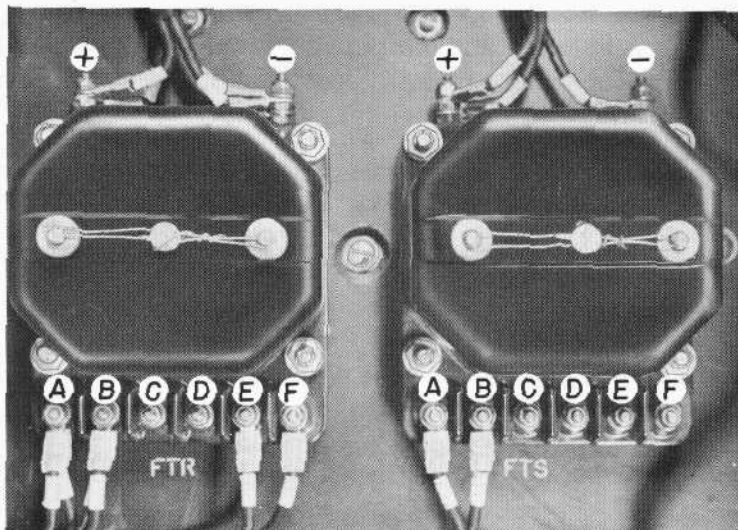
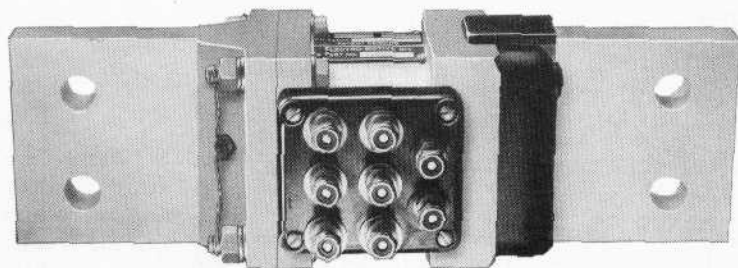

Fig. 1 - FTR And FTS Relays
Fig. 2 - BTR Relay
The first two of these relays, FTR and FTS, Fig. 1, are sensitive to main generator voltage and when energized, initiate circuit changes for forward transition. The BTR relay, Fig. 2, is designed for operation on main generator current and will function to cause backward transition.
To initiate this transition step, it will be necessary to momentarily jumper or short circuit the "A-B" terminals of the FTR relay, Fig. 1. An insulated wire or short circuiting bar can be used.
Continuing from the previously established transition 3 circuit, place a jumper wire across the "A-B" terminals of FTS relay, Fig. 1. The jumper should be left in place to establish the transition 4 circuit.
advancing it to the No. 1 position or by disconnecting the wires from either the "A" or "B" terminal studs of the BTR relay, Fig. 2. The sequence of operation using the throttle lever is as follows:
1. Disconnect the GPS4 feed wire from the bottom terminal of the rear 10,000 ohm resistor of the FTR resistor assembly, Fig. 5. This GPS wire must be disconnected in order to remove the main generator from the circuit, thus preventing an overload of the M-G set. Be sure to leave the GPS5 wire intact so that both the FTR and FTS circuits are connected in parallel across the M-G set. Connect the positive (+) output lead of the M-G set and the positive (+) lead of a 0-1000 DC voltmeter having $\pm 1\%$ full scale accuracy to the terminal from which the GPS wire was removed. Connect the negative (-) lead to the GNR1 terminal on either the FTS or FTR relays, Fig. 1. Connect the input leads of the M-G set to the battery knife switch. Observe proper polarity. (LEFT POST IS POSITIVE.)